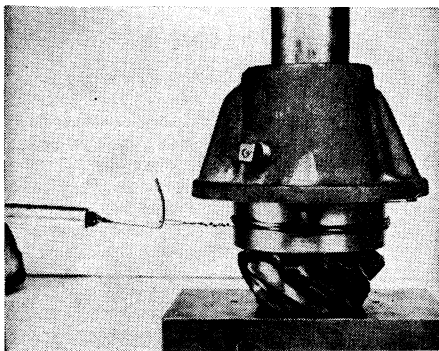

Fig. 31 Checking pinion bearing preload torque
8. While in press under pressure, check pinion bearing preload torque. Wrap soft wire around pinion cage, Fig. 31, and pull on a horizontal line with a spring scale. If a press is not available, the pinion nut may be tightened to the correct torque and the preload checked. The correct pressures or torques for checking pinion bearing preload are as follows: